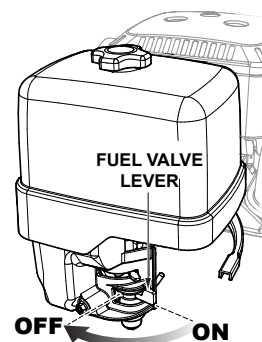

Figure 20. Fuel Valve Lever (OFF)
3. Place the fuel shut-off lever (See Figure 20) in the **OFF** position